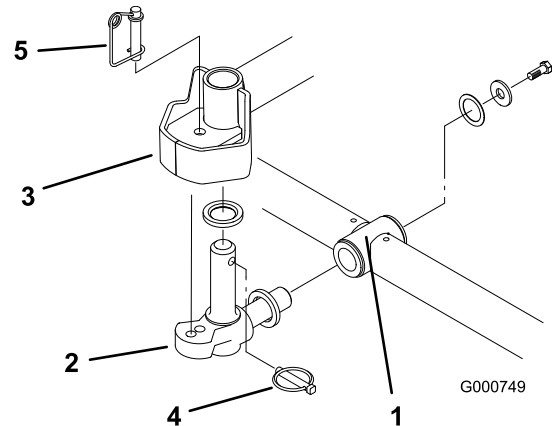

Figure 16
6. Insert a thrust washer onto the horizontal shaft of the pivot knuckle as shown in (Figure 16).
7. Insert the horizontal shaft of the pivot knuckle into the mounting tube of the carrier frame (Figure 16).
8. Secure the pivot knuckle to the carrier frame with a thrust washer, a flat washer, and a flange-head cap screw (Figure 16).
9. Insert a thrust washer onto vertical shaft of pivot knuckle (Figure 16).
10. If removed, insert the vertical shaft of the pivot knuckle into lift arm pivot hub (Figure 16). Guide the pivot knuckle in place between the two rubber centering bumpers in the under side of the lift arm steering plate.
11. Insert the lynch pin into the cross hole on the pivot knuckle shaft (Figure 16).
Note: If fixed cutting unit position is required, insert the steering locking pin into the pivot knuckle mounting hole (Figure 16).
14. Hook the spring wire around the bottom of the steering locking pin (Figure 16).